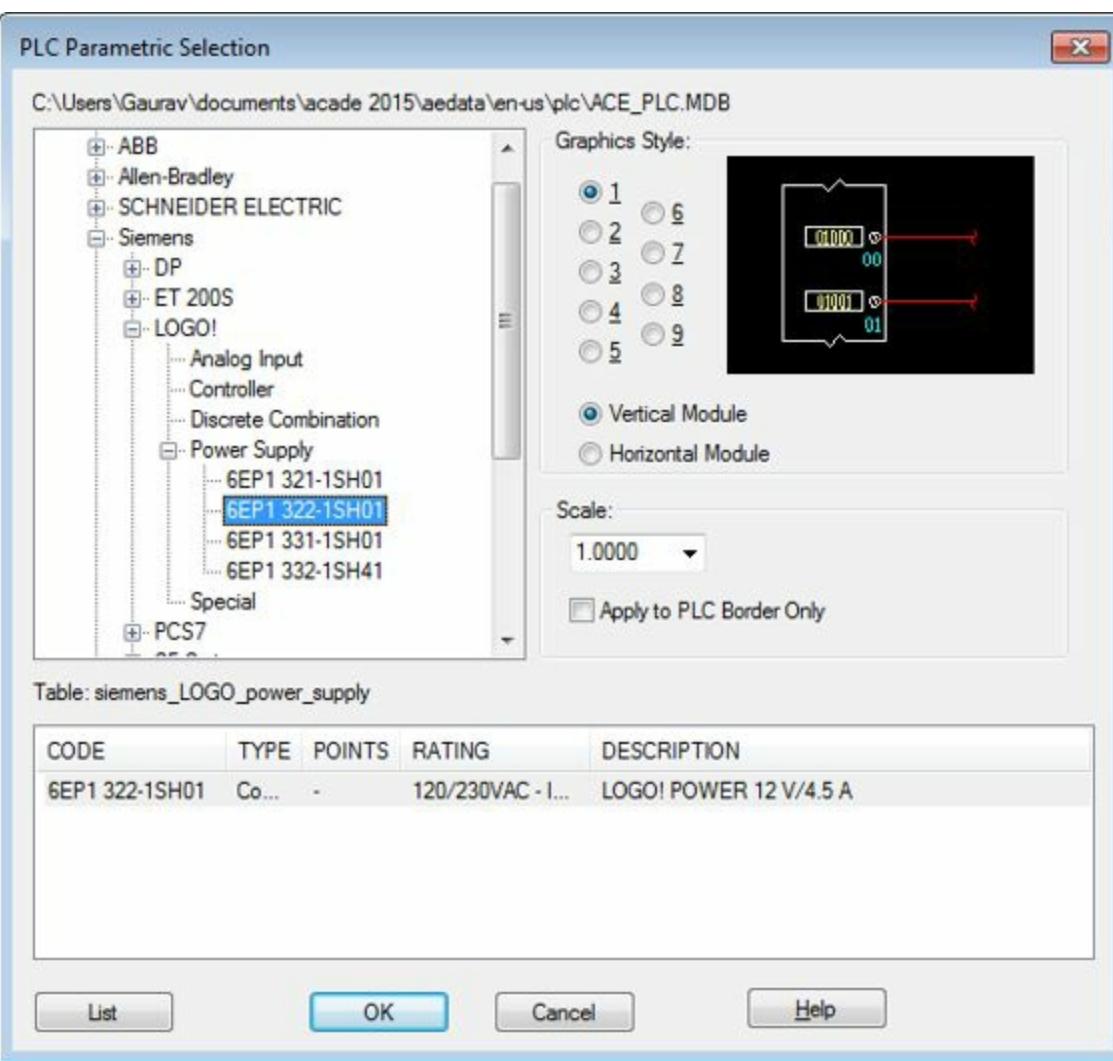

Figure-2. PLC Parametric Selection dialog box
- Click on the **Insert PLC (Parametric)** tool from the **Insert PLCs** drop-down in the **Insert Components** panel. The **PLC Parametric Selection** dialog box will be displayed; refer to Figure-2.